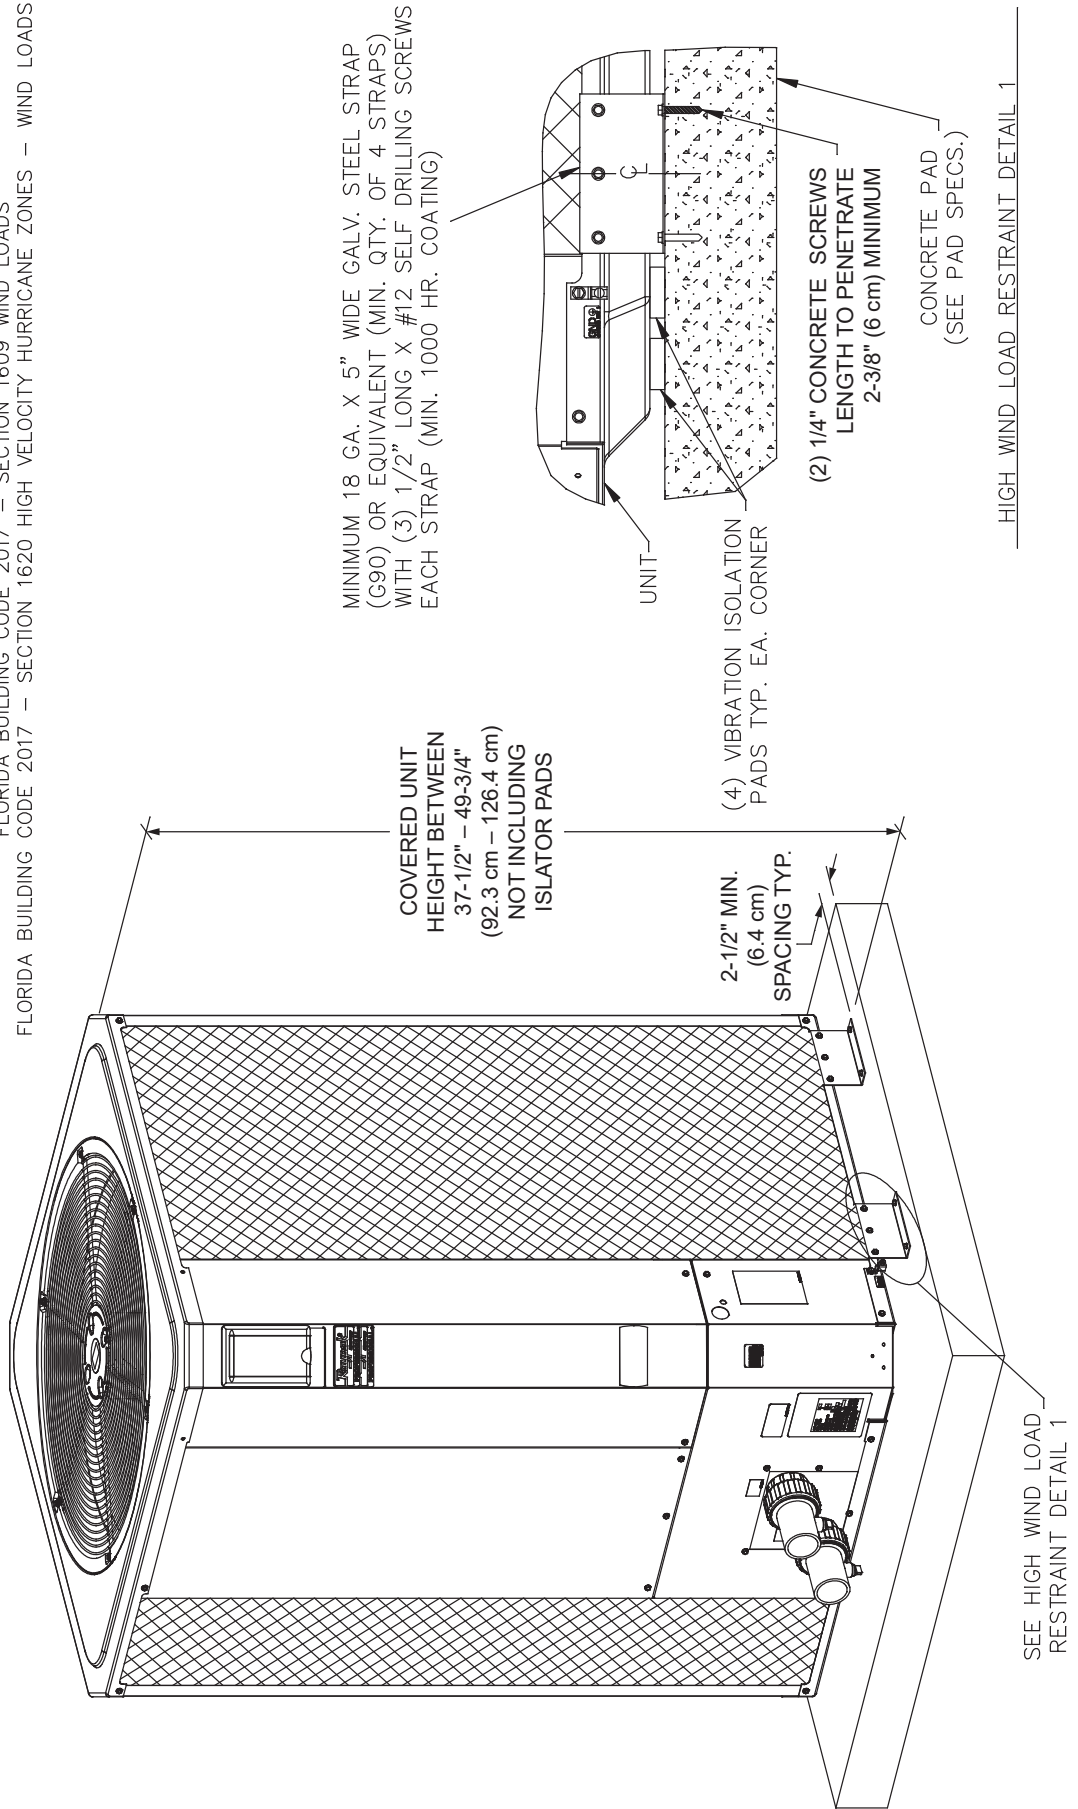

Figure 2. High Wind Installation Requirements
- For high wind installation requirements, refer to **Figure 2**.